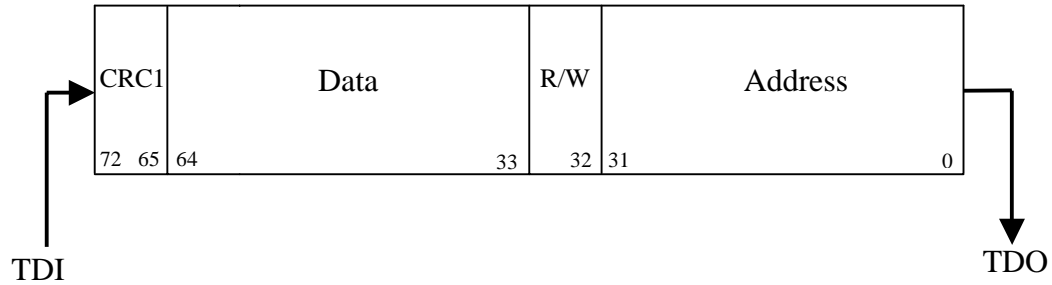

Figure 9: WISHBONE Scan Chain (data shifted in)
- CRC1 (Figure 9: WISHBONE Scan Chain (data shifted in)) is shifted in. Host calculates it from the address, R/W bit and data that are send in.